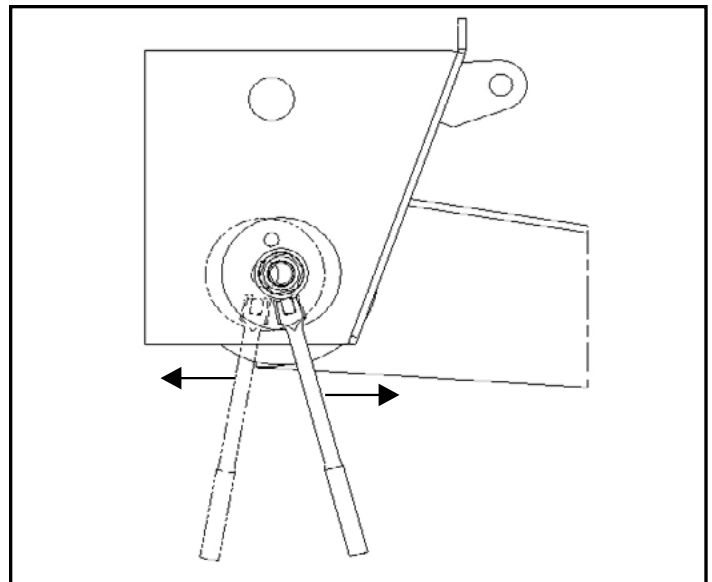

Figure 16.
2. Locate the adjuster plate at the pivot connection. Insert a 1/2"-shank breaker bar into the square hole of the adjuster plate. Push on the breaker bar to move the beam forward or backward until the axle reaches alignment measurements (Figure 16).